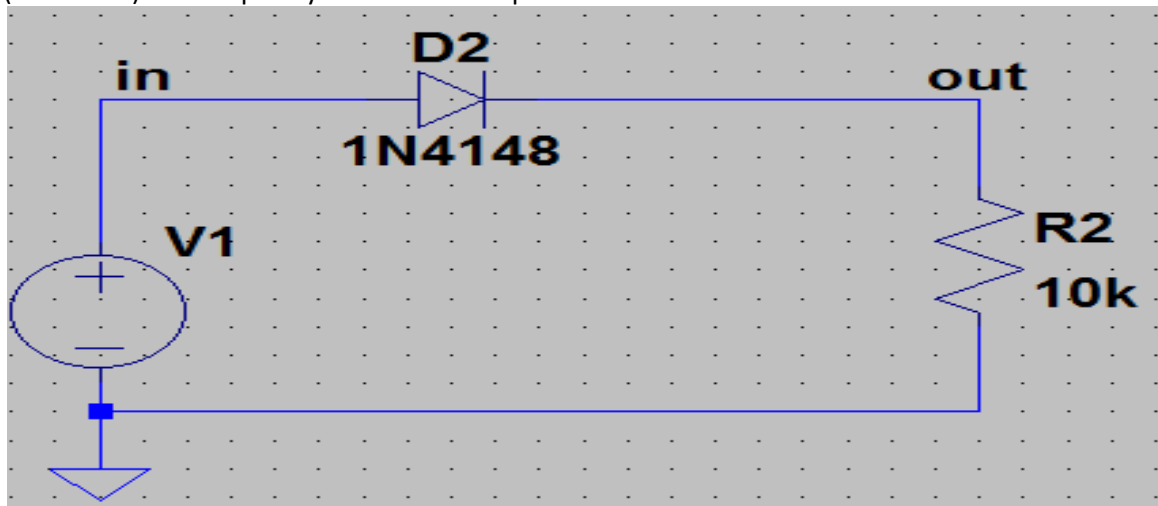

Figure 1
- a) Implement the circuit given in figure 1 in breadboard. Make the voltage source as an AC source (Sine wave) at a frequency of 60Hz and amplitude 5V.
- c) Implement the circuit shown in figure 1 in LTSpice and repeat step 1(b).